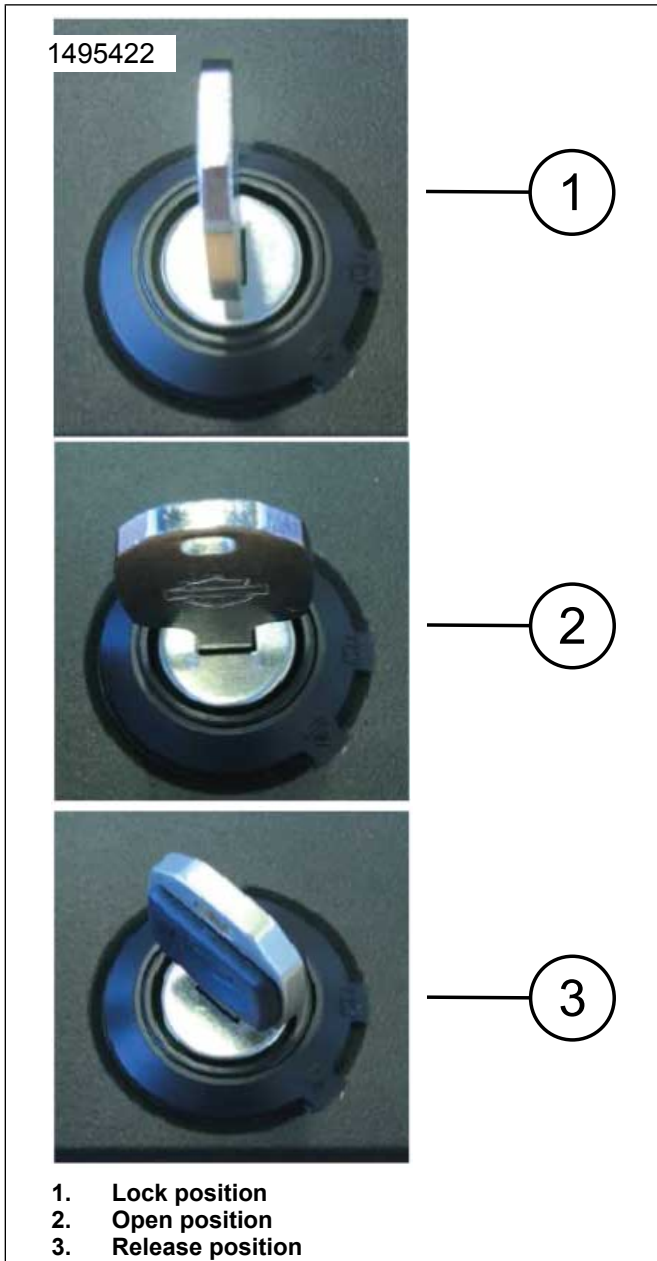

Figure 11. Lock Positions (typical)
- Figure 11 Once lockset is installed, key can be removed in position 1 or 2.